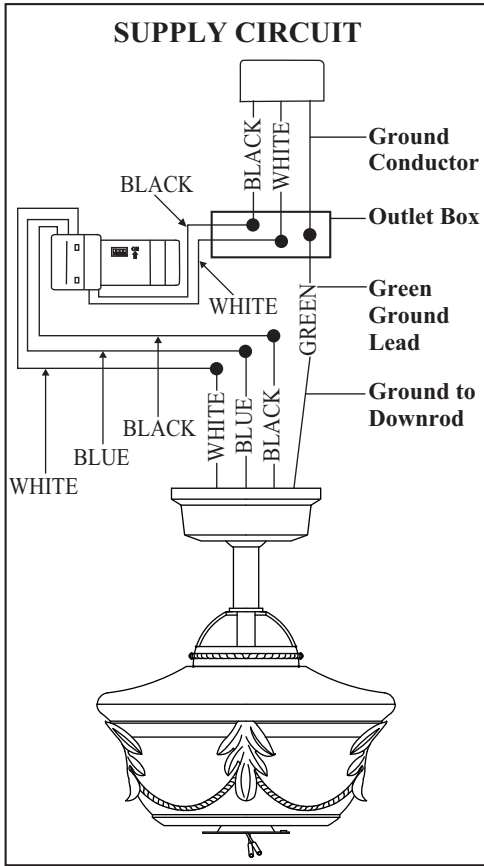

Figure 11
2. (Fig. 11) Motor to receiver electrical connections: Connect the black wire from the fan to black wire marked "TO MOTOR L". Connect the white wire from the fan to the white wire marked "TO MOTOR N" from the receiver. Connect the blue wire from the fan to the blue wire marked "For Light" from the receiver. Secure the wire connections with the plastic wire connecting nuts provided.
3. (Figure 11) Receiver to house supply wires electrical connections: Connect the black (hot) wire from the ceiling to the black wire marked "AC in L" from the receiver. Connect the white(neutral) wire from the ceiling to the white wire marked "AC in N" from the receiver. Secure the wire connections with the plastic wire connecting nuts provided.
4. (Figure 11) If your outlet box has a ground wire (green or bare copper) connect it to the fan ground wires; otherwise connect the hanging bracket ground wire to the mounting bracket. Secure the wire connection with a plastic wire connecting nut provided. After connecting the wires spread them apart so that the green and white wires are on one side of the outlet box and black and blue wires are on the other side. Carefully tuck the wire connections up into the outlet box.